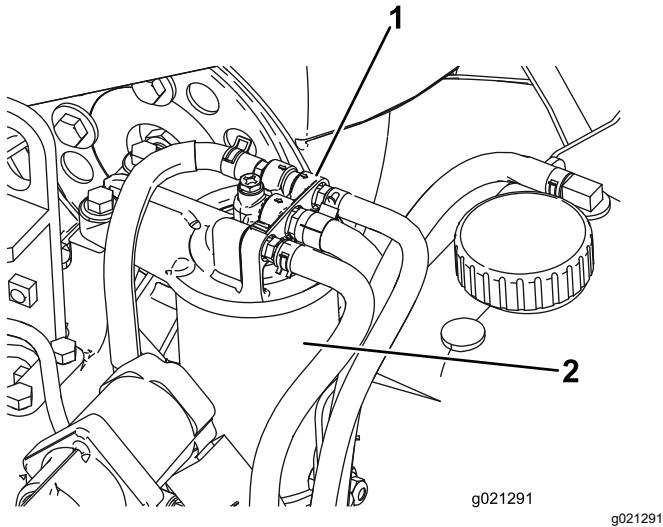

Figure 93
1. Clean the area around the fuel-filter head (Figure 93).
2. Remove the filter and clean the filter head mounting surface (Figure 93).